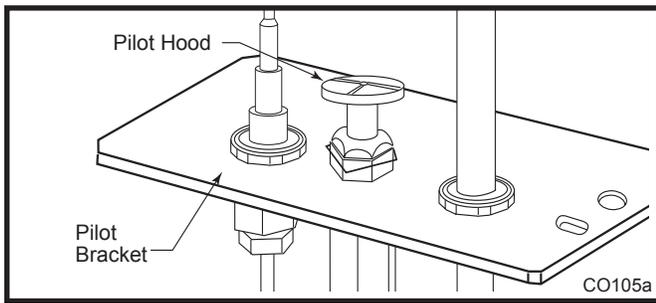

Fig. 54 Remove pilot hood.
- Remove pilothood by lifting up. (Fig. 54) **NOTE:** Do not remove snap ring to remove pilot hood.